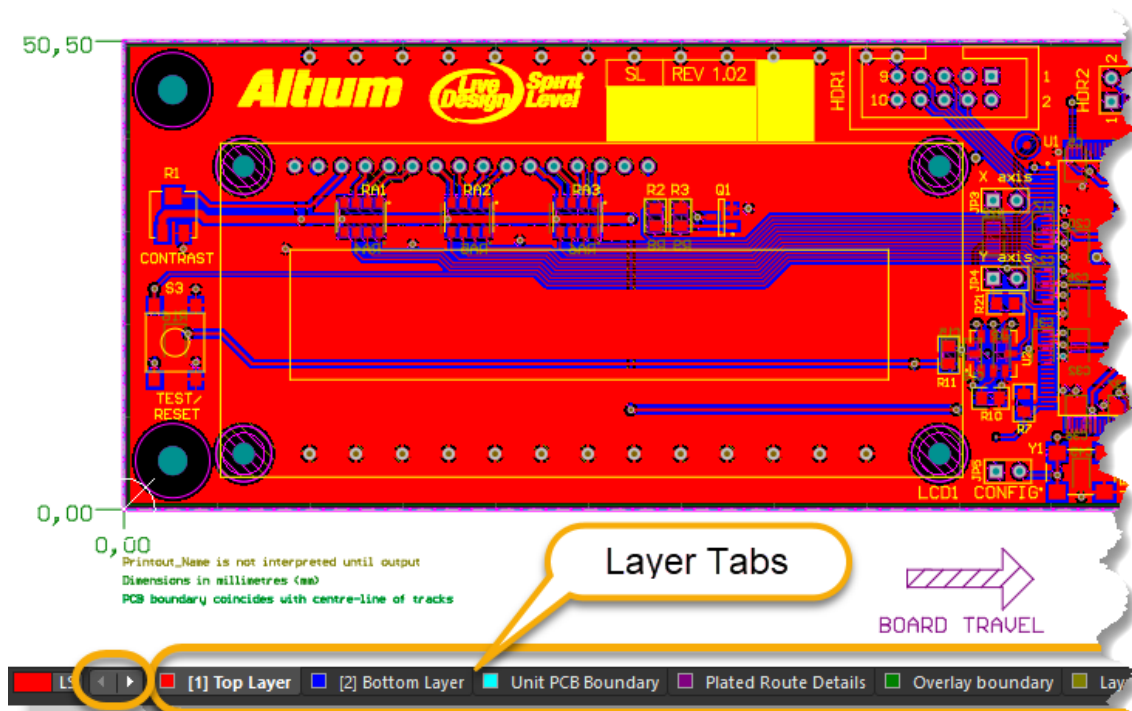

Figure 9. Layers tab showing all available layers
- a) Click the two small arrows  beside the layer tabs to scroll through the tabs, similar to what is shown in Figure 9.